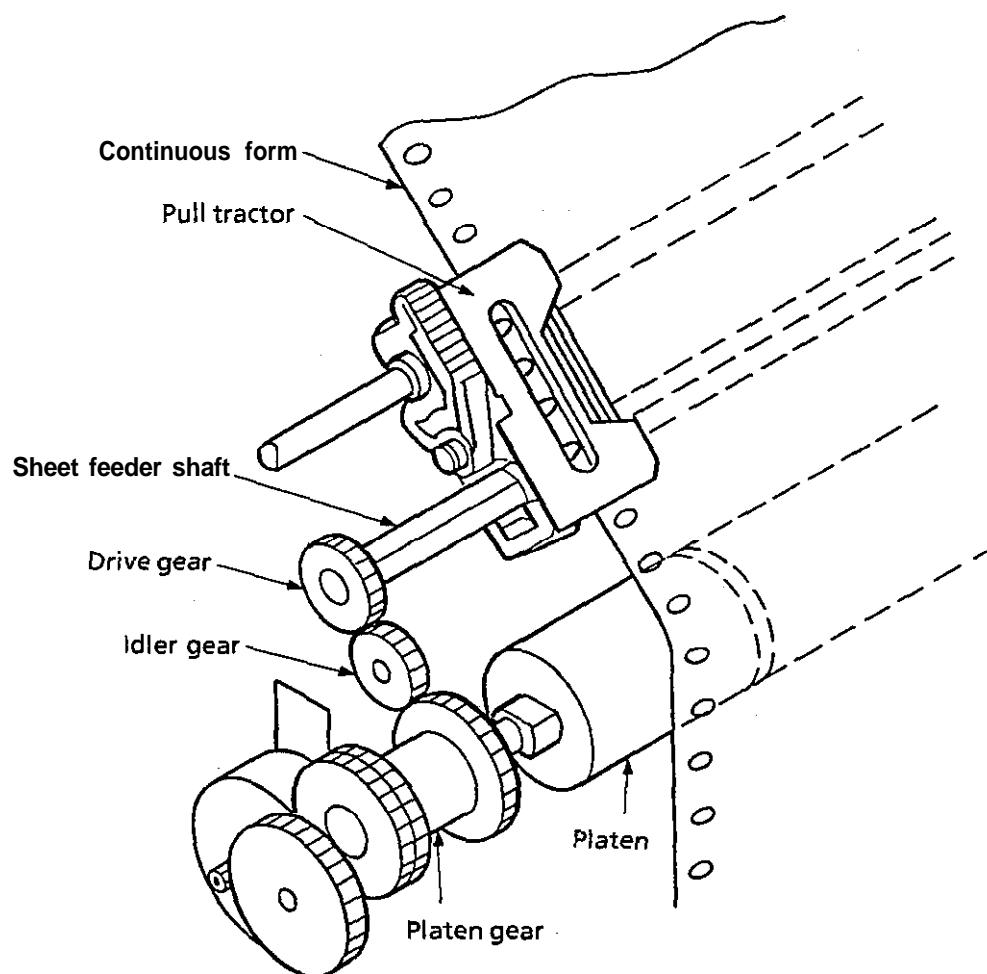

Figure 3-10
(4) Pull tractor mechanism (option) (See Figure 3-10.)